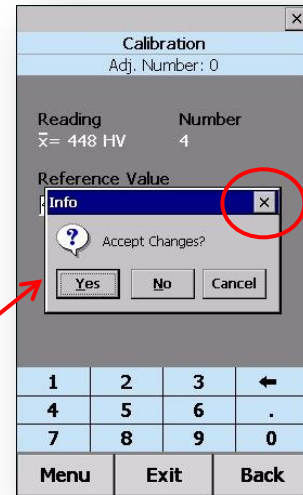

Figure 7.37
Thereby, each digit in the nominal value field can be separately highlighted and modified. If there is subsequently a difference between "measured value" and "nominal value", by pressing one of the buttons "Menu", "Exit", "Back" it is queried whether these changes should be carried over (YES) or not (NO) with the possibility of cancellation (Figure 7.37). In case of cancellation (red circle), the system remains in the previous state and further modifications can be carried out